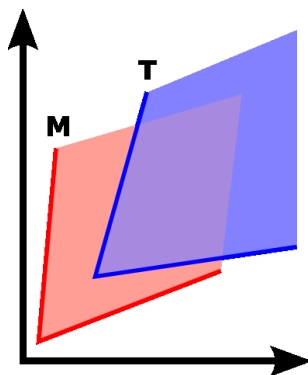

Figure B.3: Target inside monitor
- (c) Target gamut inside monitor gamut (Figure B.3).